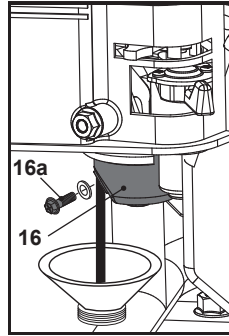

Fig. 15
- Empty the fuel tank (11) when storing the product over 30 days to prevent the fuel deteriorating.
- Place a suitable container under the carburetor (16) to collect drained fuel.
- Unscrew the fuel drain screw (16a), move the fuel lever (14) to its on position and let the fuel run into the container (Fig. 15).